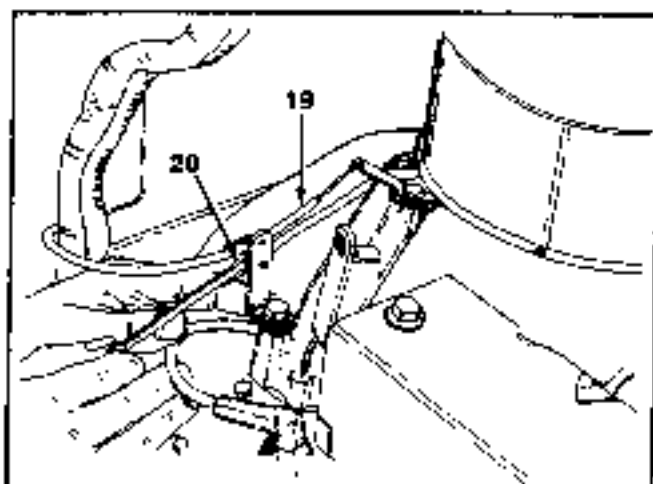

FIGURE 14.
17. Disconnect the throttle control cable, located on the right hand side of engine using a $\frac{1}{4}$ " wrench. Loosen the hex bolt and cable clamp. See figure 14. Unhook the end of throttle cable and remove